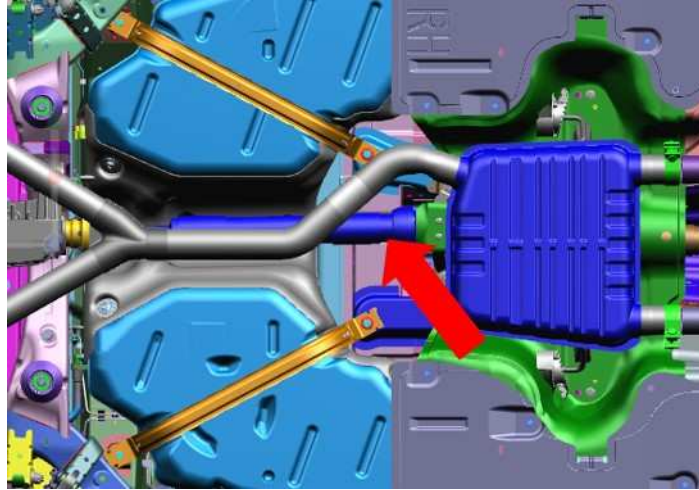

Fig. 18
- Support the rear prop shaft (Fig. 18) .